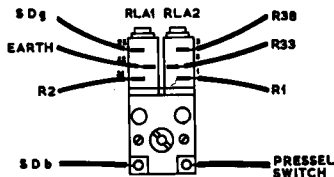

Fig.10 Relay Connections
- (b) Disconnect the rotary transformer connecting leads from the terminal block fitted to the side of the main chassis (see Fig. 10).